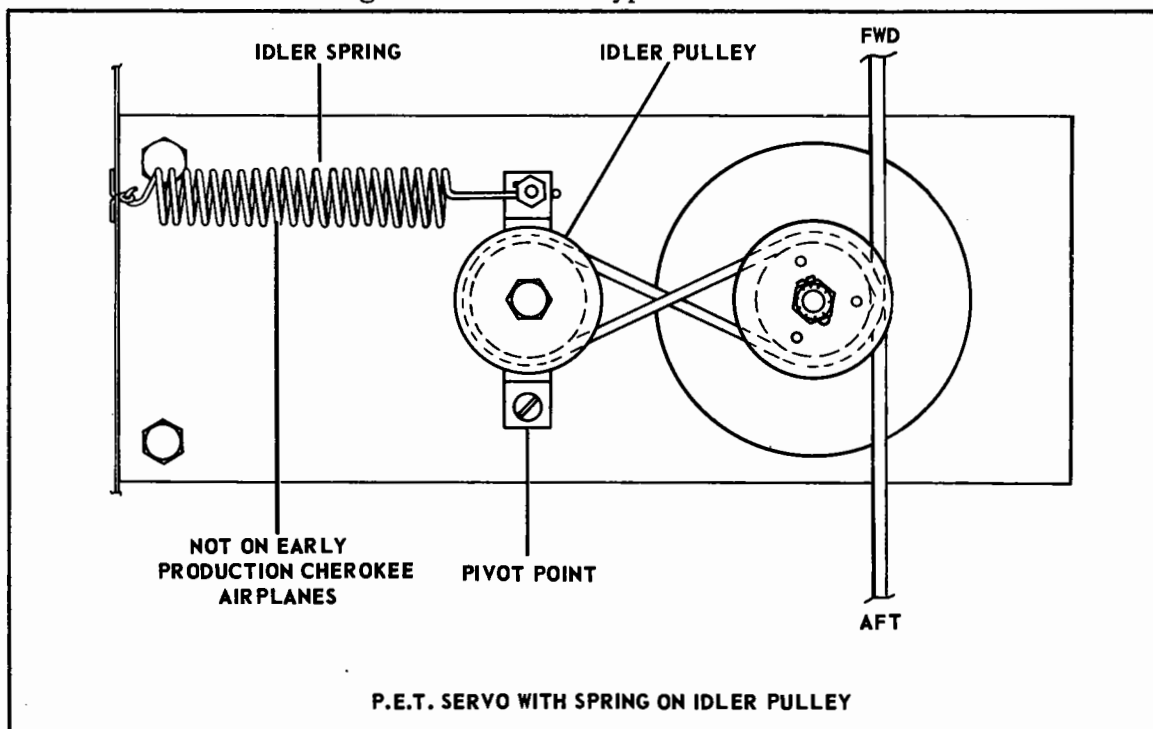

Figure 3-6. PA-28 Trim Servo Cable Routing
3-19. INSTALLATION OF TRIM SERVO. (PA-28.) (Refer to Figure 3-6 or 3-7.)
- c. On PA-28-150, PA-28-160 and PA-28-180 airplanes with Serial Nos. 28-2172 to 28-4377 inclusive; PA-28-235 airplanes with Serial Nos. 28-10606 to 28-10719 inclusive; and PA-28-140 airplanes with Serial Nos. 28-20002 and up, (refer to Figure 3-6), route the trim cable from the forward section of the airplane around the top capstan groove, around the aft side of the idler pulley located in the center of the servo, around the bottom capstan groove toward the aft section of the airplane until cable forms a figure eight. Proceed to step "e".